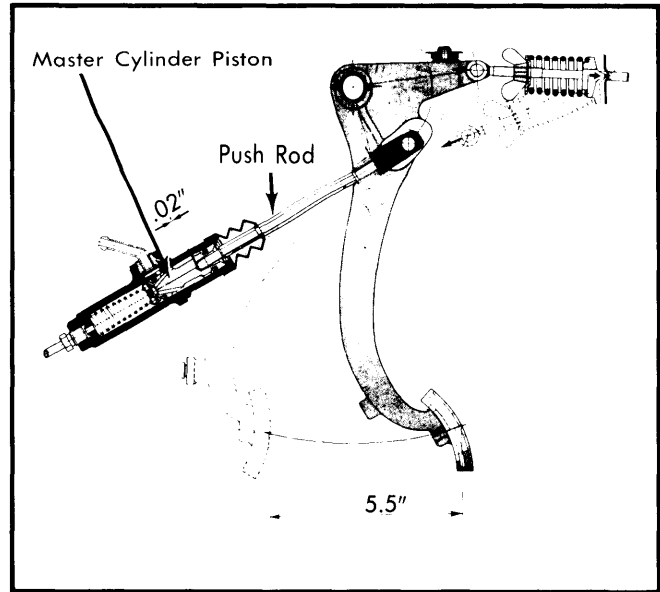

Fig. 3 928 Clutch Push Rod Adjustment
**928** — No adjustment is necessary because of automatic adjustment of slave cylinder. There must, however, be .020" (.5 mm) play between the push rod and master cylinder piston. This cannot be measured directly, but can be felt at the pedal. Pedal should have approximately .118" (3 mm) free play. Free play can be corrected by adjusting the push rod (See Fig. 3).